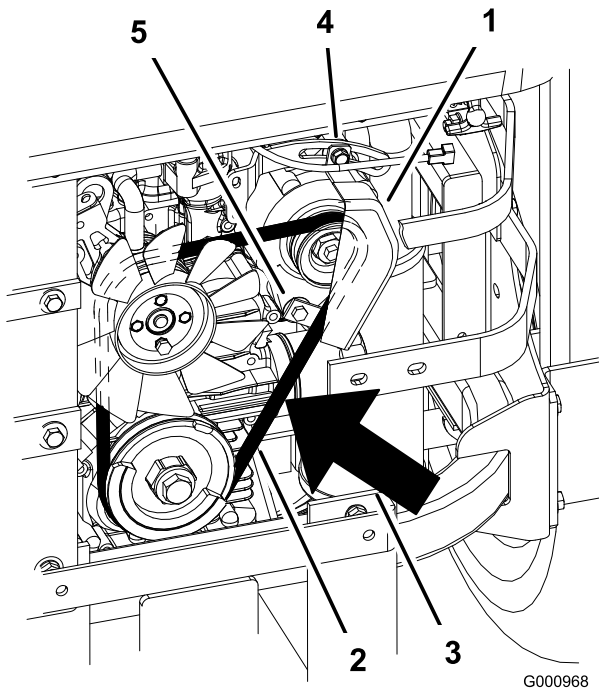

Figure 66
- 2. Adjust the alternator to the outside until there is 1/4 to 11/32 inch (7 to 9 mm) deflection in the belt between the engine and the alternator pulleys with 22.1 lbs of force (10 kgf) (Figure 66).
- 5. If the deflection is correct, tighten the bottom and upper bolt (Figure 66).